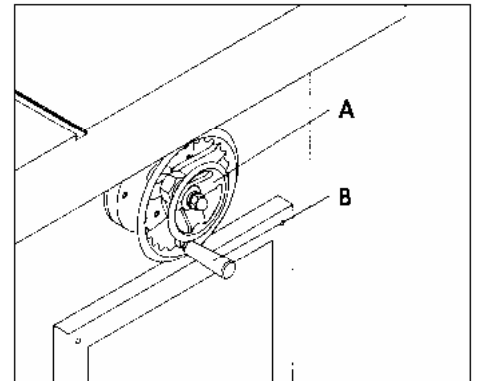

Fig. 3.16
1. Loosen handwheel lock (A) Fig. 3.16, before making adjustment of spindle height.
2. To raise the spindle, turn handwheel (B) counterclockwise and to lower the spindle, turn handwheel (B) clockwise.
3. Tighten handwheel lock (A) when desired spindle height is obtained.